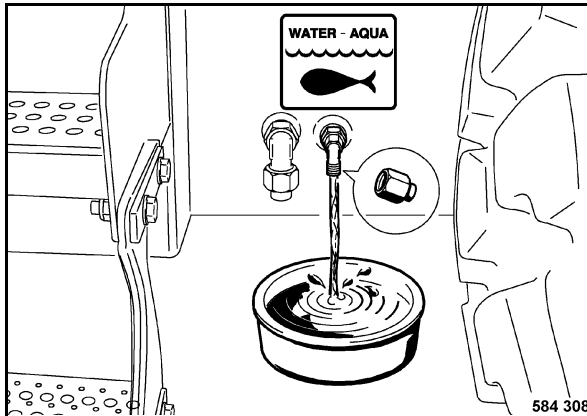

Fig. 178
- Unscrew the plug, let the coolant run out and catch it (Fig. 178).